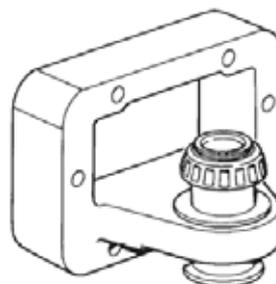

Figure 16 Positioning Bearing and Spacer
- c. Position the bearing-to-housing spacer and the inner bearing on the shaft (Figure 16).